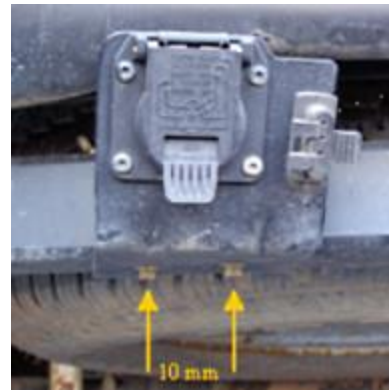

Figure 1
2. Loosen, but do not remove the two bolts that secure the trailer plug-in mounting bracket to the receiver hitch (**Figure 1**).